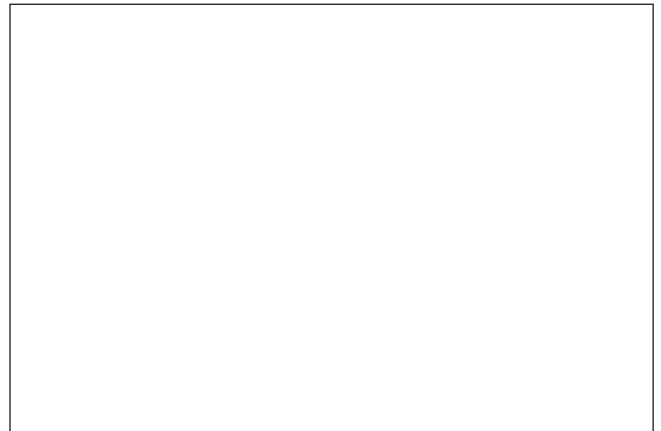

Figure 1
1. Rotate the clutch outer race to position shown in Figure 1.
1. Rotate the clutch outer race to position it as shown in (Figure 1), with plug “C” being in place and tight.
1. Rotate the clutch outer race to position it as shown in (Figure 1).
1. Rotate clutch to the position shown in (Figure 1).